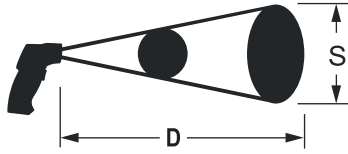

Fig. 1
- The measured object must be larger than the IR measuring spot **S** (fig. 1).
- The measured object should be at least twice the size of the IR measuring spot **S** (fig. 1).
- The D:S ratio is 6:1. At a distance **D** (fig. 1) of 6 cm, the size of the IR measuring spot is 1 cm.